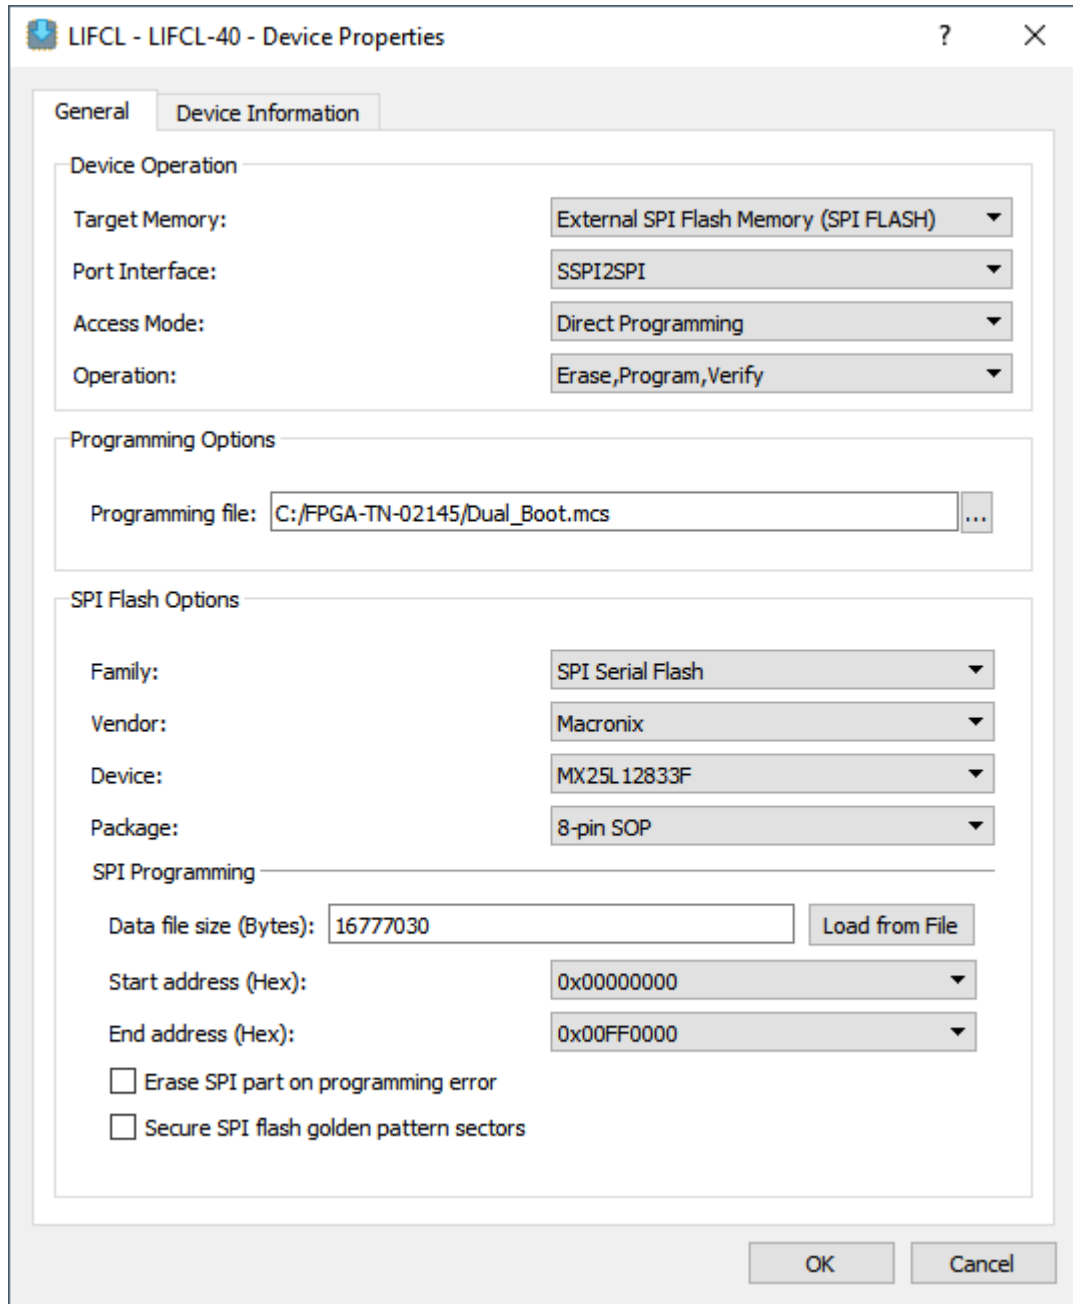

Figure 7.2. Radiant Programmer – Device Properties Window
5. The **Device Properties** window opens (Figure 7.2).